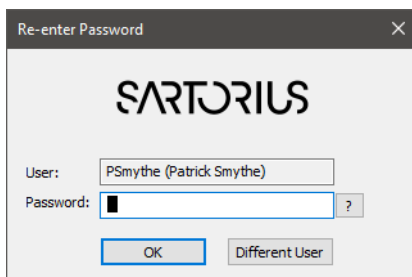

Figure 12-20: Re-enter Password Dialog Box
2. Click **Remove Signatures**. The Re-enter password dialog displays (Figure 12-20).